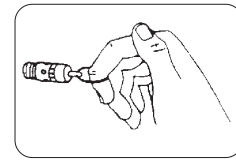

FIGURE 12
- Verify if safety valve 6 (Figure 12) is working.
- Verify the operation of the safety valve 6 (Figure 12).